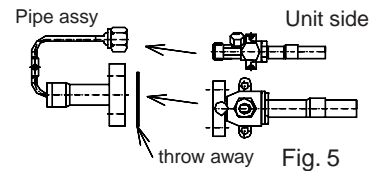

Fig. 5
- (4) Remove the connection pipe assy.(Fig.5)